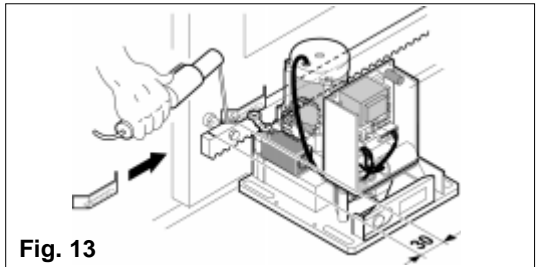

Fig. 13
- 3) Slide the travel stop plate along the rack in the opening direction (fig. 13).
When the LED of the opening travel end limit switch on the electronic control unit goes out, advance the travel stop plate by 30 mm and fasten it temporarily in position with two spot welds (fig. 13).